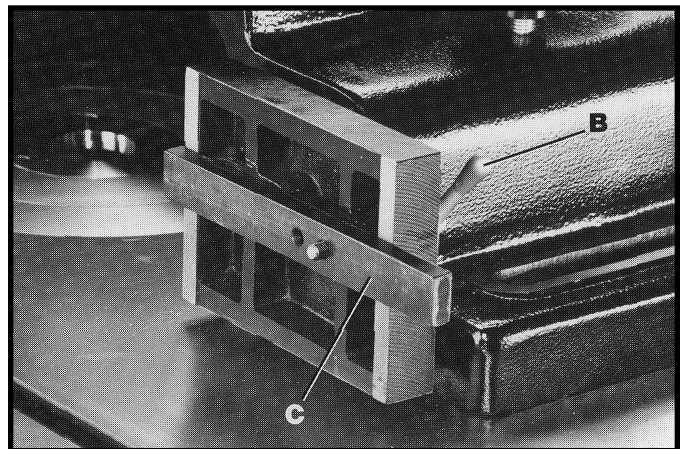

Fig. 17
2. Fasten bar (C) to the front of the fence half using the locking lever and washers (B), as shown in Figs. 17 and 18. Assemble the remaining bar to the other fence half in the same manner. **NOTE:** Locking levers (B) are spring-loaded and can be repositioned by pulling out the handle and repositioning it on the nut located underneath the hub of the handle.